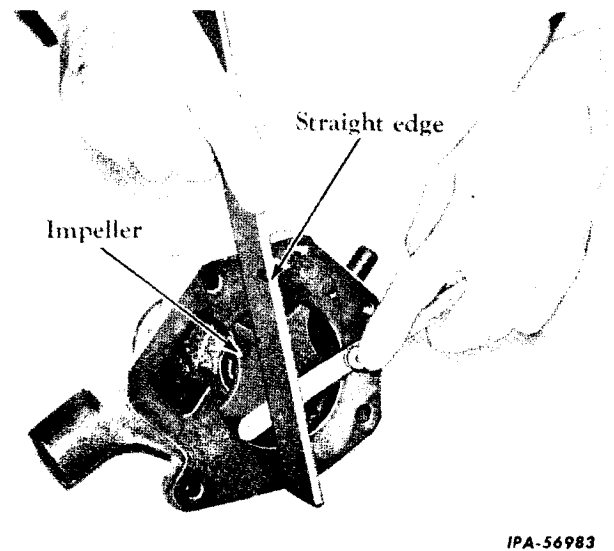

Fig. 11 - Checking the Impeller Clearance.
4. Press the impeller on the rear of the shaft so that there is proper clearance between the machined face of the pump body and the face of the impeller (Refer to "SPECIFICATIONS," Section 1). Check the clearance with a straight edge and a feeler gauge (Fig. 11).